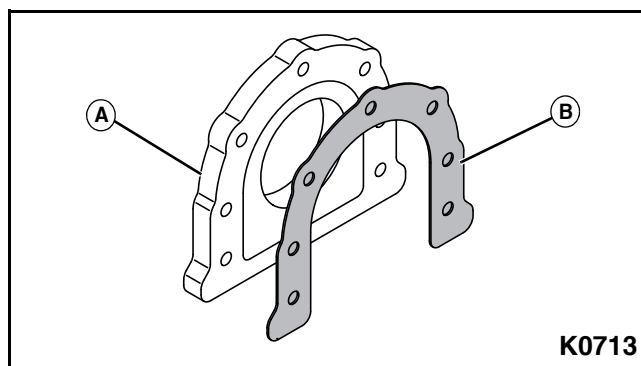

Figure 3-92
2. Install new gasket (B) between rear crankshaft seal retainer (A) and cylinder block. **See Figure 3-92.**